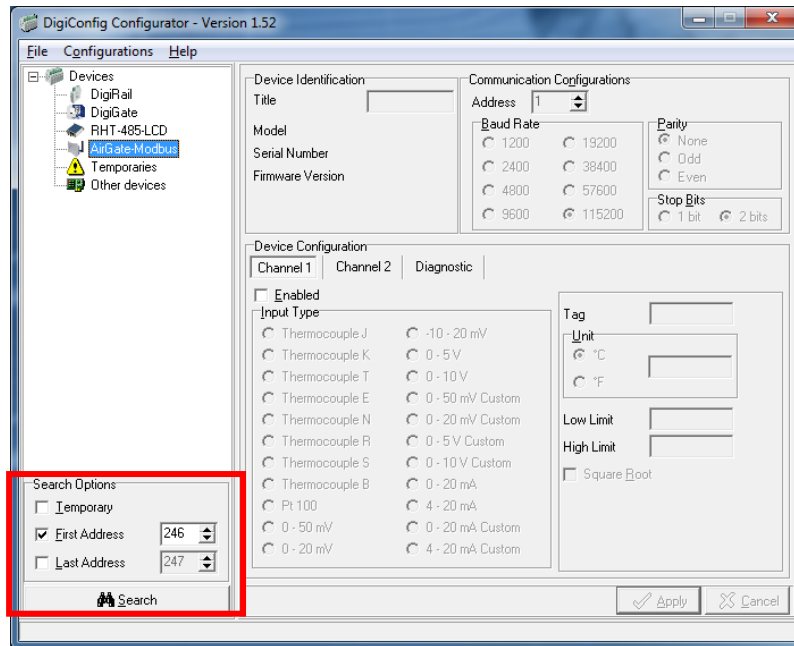

Fig. 12 – DigiConfig main screen
**AirGate-Modbus** is configurable through **DigiConfig** software via USB interface, being necessary to put the device in setup mode. To enter this mode, simply press the SETUP BUTTON, checking that the Status LED now flashes slowly (approximately once per second). In setup mode, the device stops behaving as a gateway from a Modbus network and starts to accept the configurations. In the main screen of the **DigiConfig** software (Fig. 12), the following configuration must be seen: